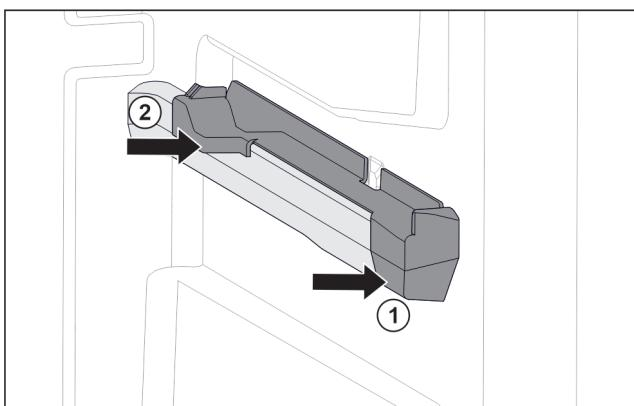

Fig. 79 Attachment on the right moulded rib
- ▶ Position attachment on moulded rib at the front. Fig. 79 (1)
- ▶ Press on attachment at the back. Fig. 79 (2)